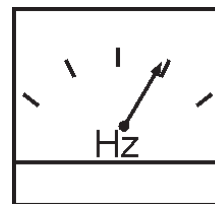

Figure 47. Frequency Meter (Hz)
8. The generator's frequency meter (Figure 47) displays the 60 cycle output frequency in **HERTZ**.